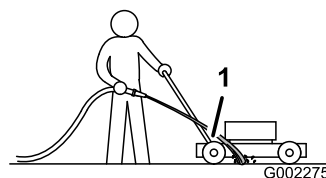

Figure 36
3. Hold the running garden hose at handle level and direct the water to flow on the ground just in front of the **right** rear tire (Figure 36).